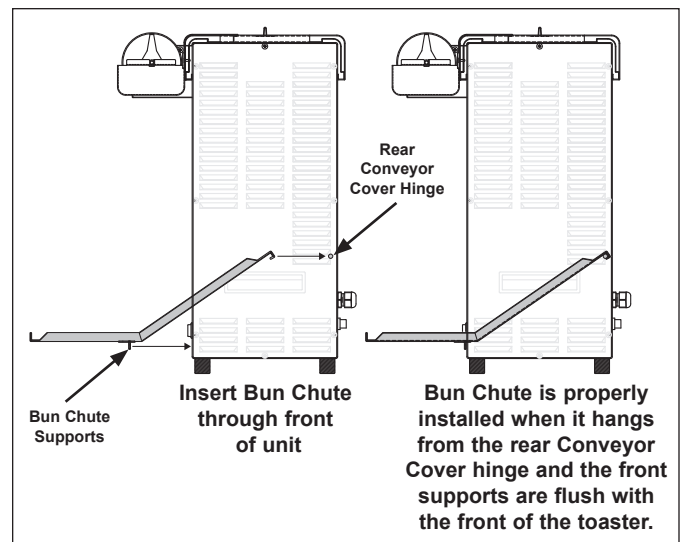

Figure 1. Installing Bun Chute
2. Insert the Bun Chute through the front of the unit according to Figure 1.
3. Hang the back of the Bun Chute on the rear Conveyor Cover hinge. When properly installed, the Bun Chute supports will be flush against the front of the unit (Figure 1).